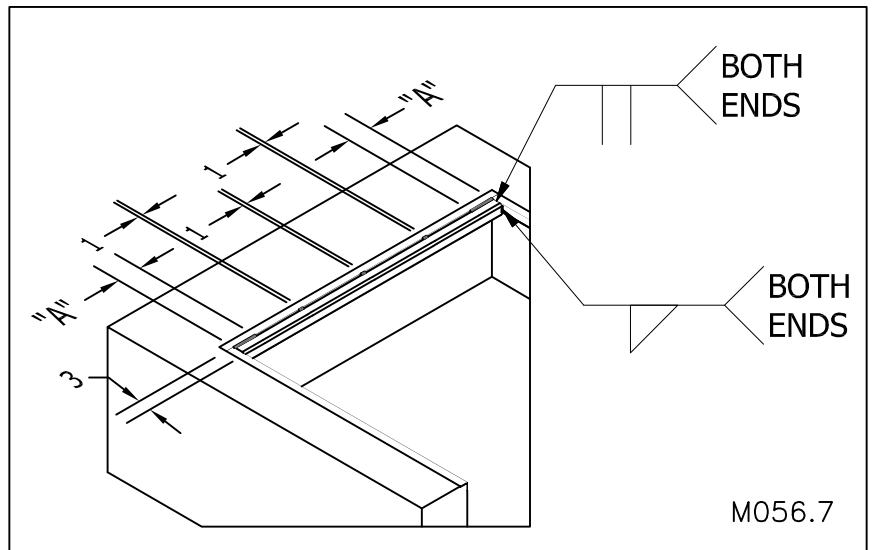

Figure 25: Welding the 3 X 3 Square Tubing to the Curb Angles
3. ☐ Weld the ends of the square tubing to the side curb angle (see “Figure 25: Welding the 3 X 3 Square Tubing to the Curb Angles” on page 22. Add vertical welds at the ends of the tube between tube surface and side curb angle surface.